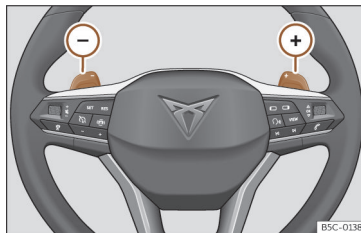

Fig. 121 Steering wheel: automatic gearbox levers
- Press the (+) gear shift paddle to change up a gear >>> **Fig. 121**.